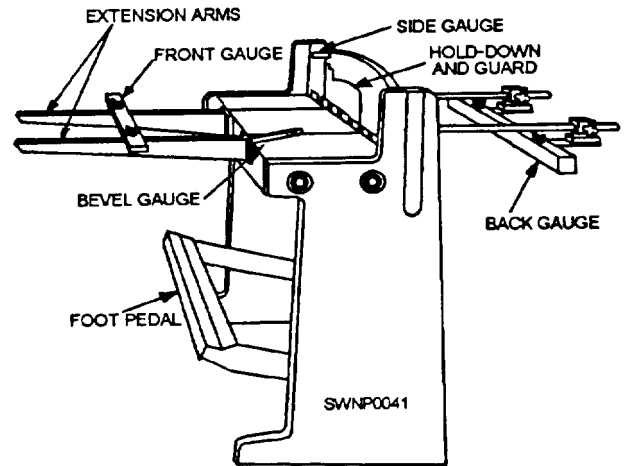

Figure 2-24.—Foot-actuated squaring shears.
**FOOT-ACTUATED SQUARING SHEARS** (fig. 2-24) make it possible to square and trim large sheets. Do not attempt to cut metal heavier than the designed capacity of the shears. The maximum capacity of the machine is stamped on the manufacturer's